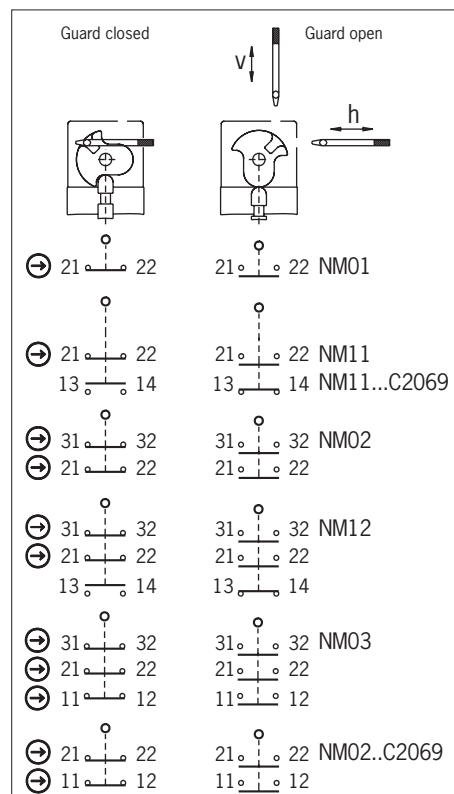

Fig. 3: Switching elements and switching functions
At least one contact  $\rightarrow$  must be used. This signals the position of the guard (for terminal assignment, see Fig. 3).
3. Connect and tighten terminals with 0.5 Nm (for terminal assignment, see Fig. 3).